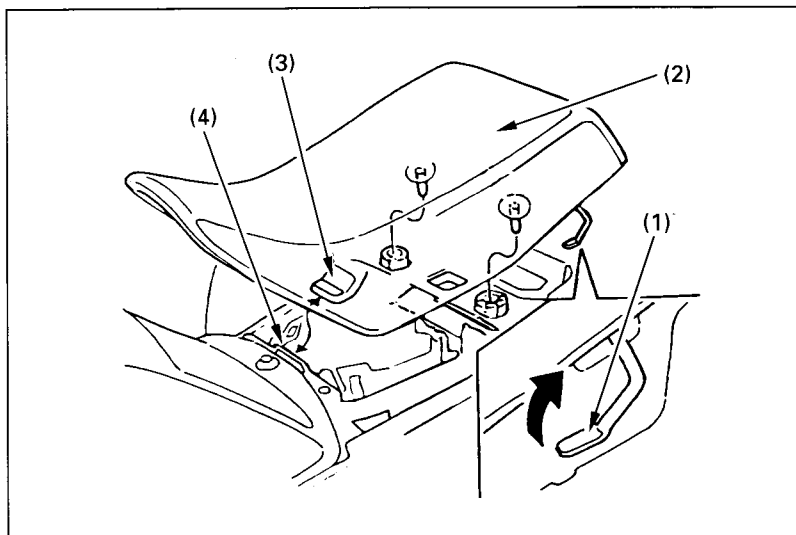

Fig. 4-37
To remove the seat (Fig. 4-37), pull up the seat lock lever (1) at the left side of the seat, then slide the seat backwards and lift it up.